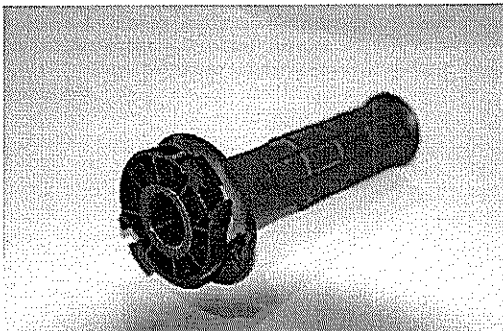

FIGURE 20
5. Inspect receptacle area of throttle control which retains barrel end of throttle cable. Properly fitted barrel fitting should have complete freedom of movement with no binding restrictions or excessive play due to wear. Barrel fitting which is binding within receptacle requires throttle cable replacement. Excessive receptacle wear requires specific component assembly replacement. FIGURE 20